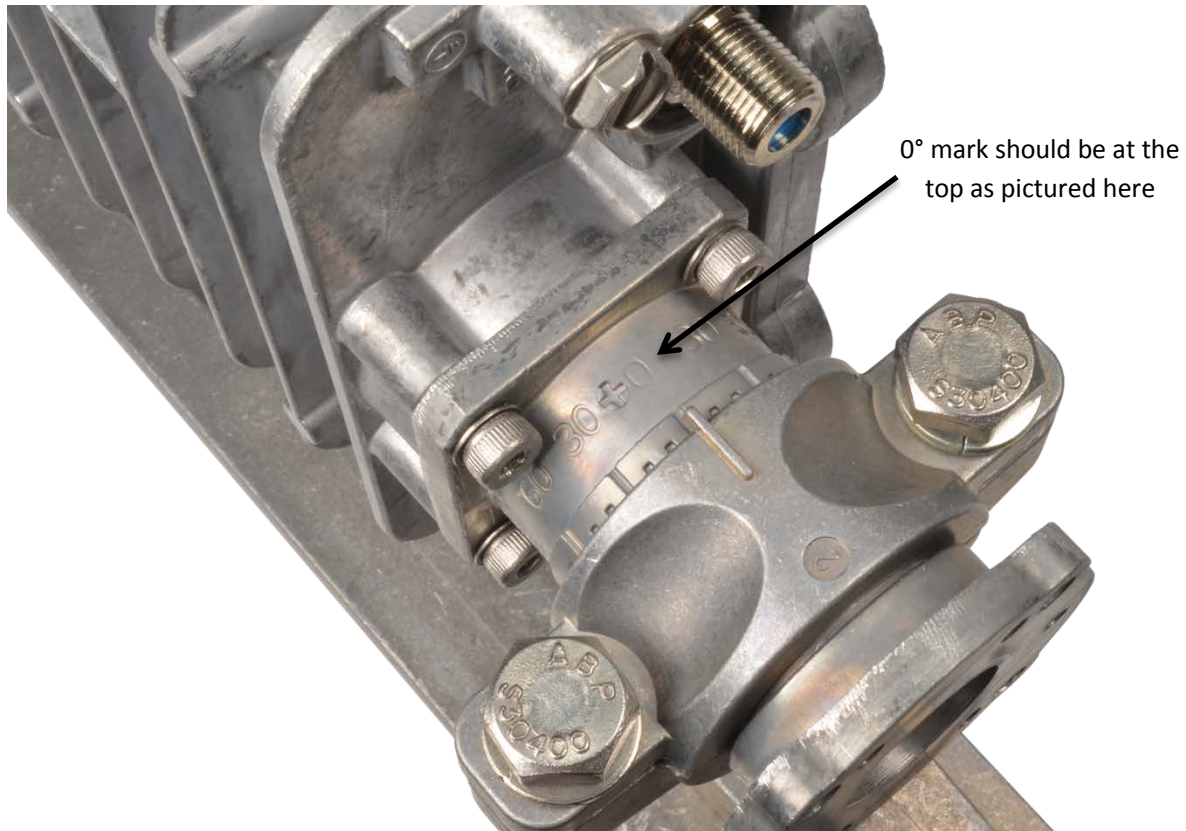

Figure 4: Polarization markings
5. Once the feed horn has been assembled, the 0° mark should still be on the waveguide spacer at the top of the bracket as shown in Figure 4.